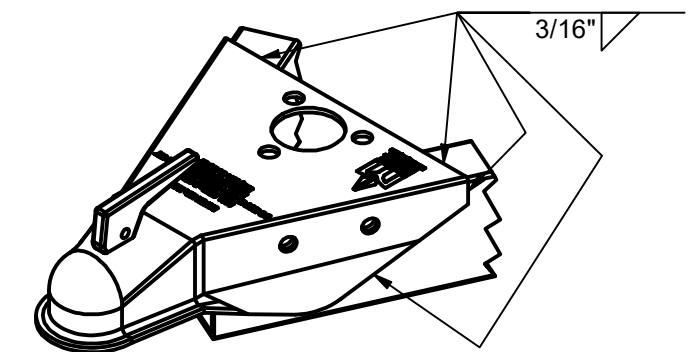

FIGURE 4: A-FRAME
2. Weld on both sides and the top using a 3/16" minimum fillet weld (See Figure 4).